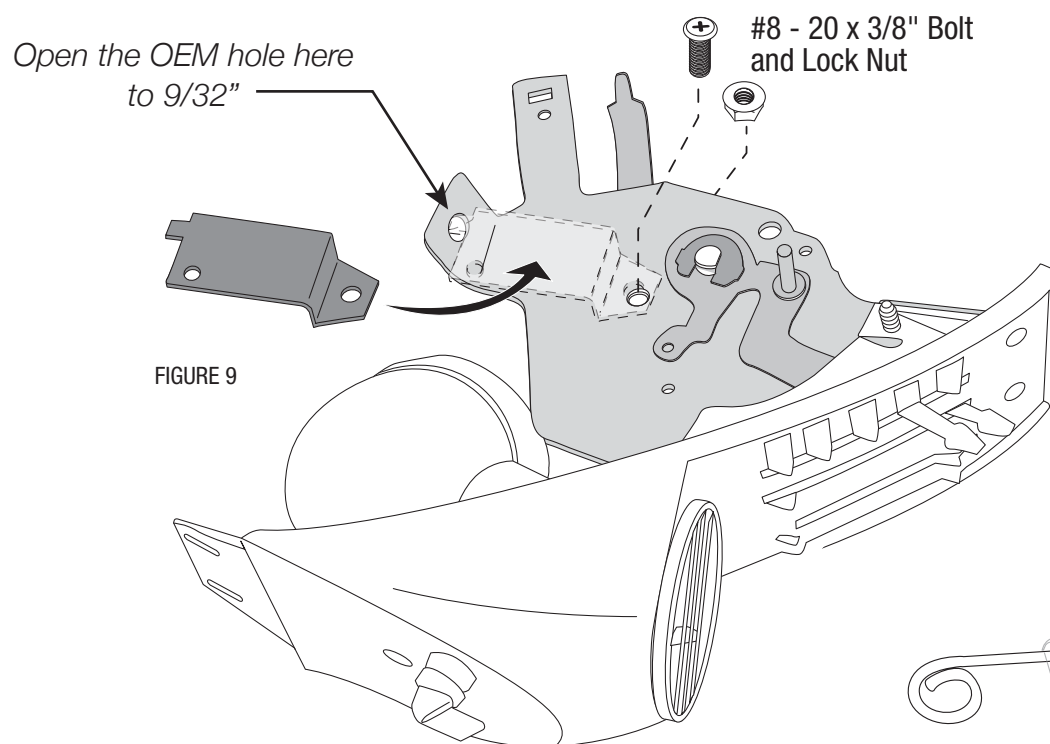
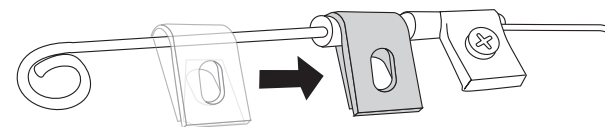

FIGURE 9
FIGURE 10
Attaching our exclusive **EZ**les to the control head is accomplished in three easy steps: **Step 1)** First attach the integrator bracket to the control head body (see figure 10) by placing the bracket into position and placing the “ear” thru the hole in the OEM cable guide hole and securing with one #8 - 20 x 3/8” bolt and locknut (see figure 9).
**Step 2)** Slide the supplied cable clamps over the end of both of the cables (see figure 10) and then route the wire ends of the new cables over the appropriate lever ends (one is a “dog-leg” end and the other is a “loop”, as shown in figure 11). Secure the cables to the mounting points (one to the new bracket and one to the control head) using the #8 - 20x3/8" screws.